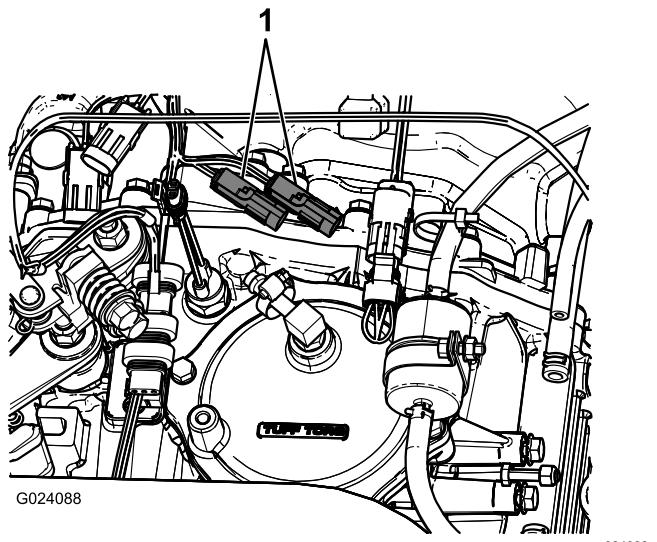

Figure 16
2. At the transaxle of the machine, connect the 3-pin connector of the wire harness of the machine for speed sensor into the 3-socket connector of the sprayer harness for the speed sensor (Figure 16).